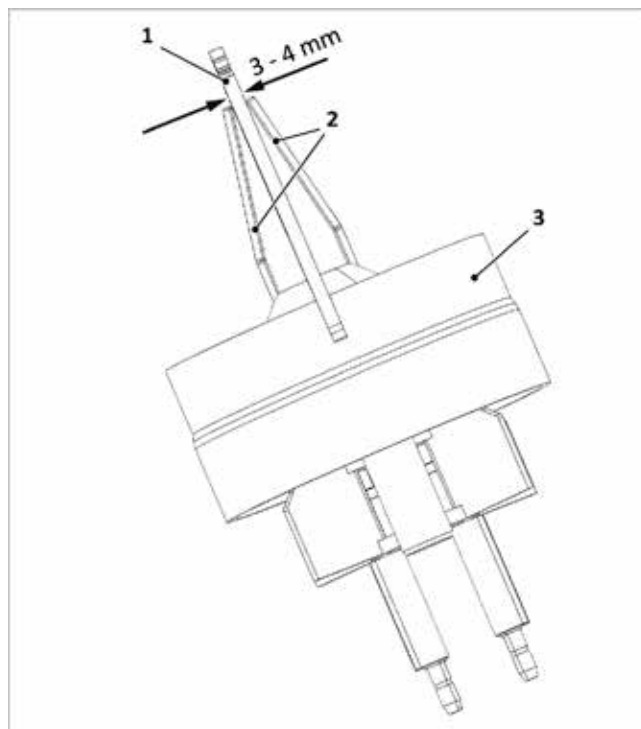

Fig. 124: Checking the ignition electrode gaps
3. Check the electrode gaps as shown in → fig. 124 and correct by bending them, if necessary.